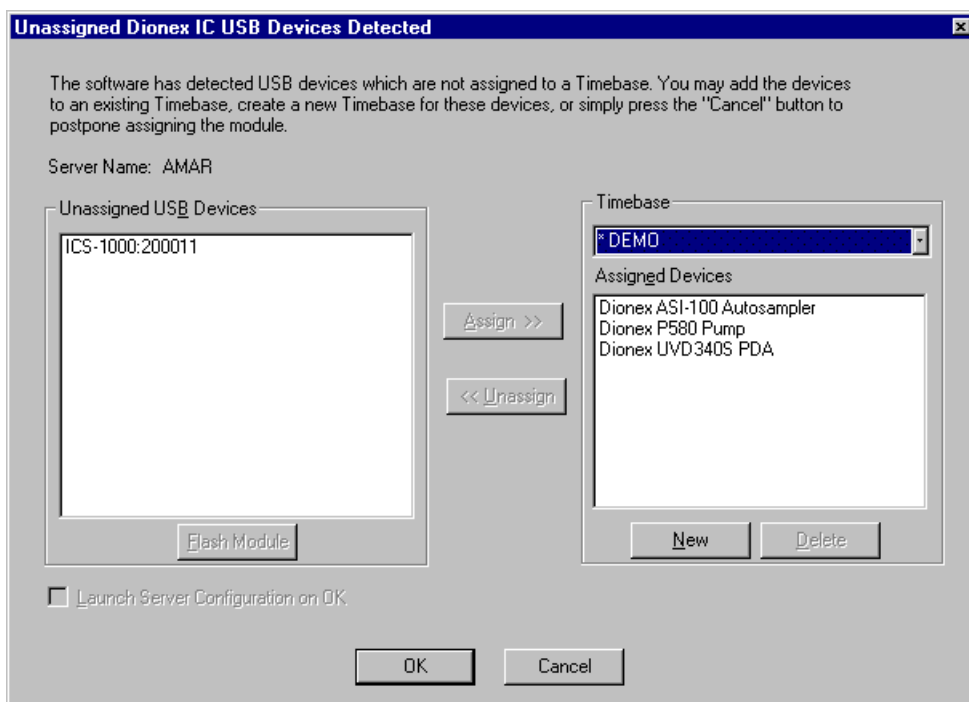

Figure B-10. ICS-1000 Unassigned to Timebase
3. The Unassigned USB Devices dialog box appears (see Figure B-10).